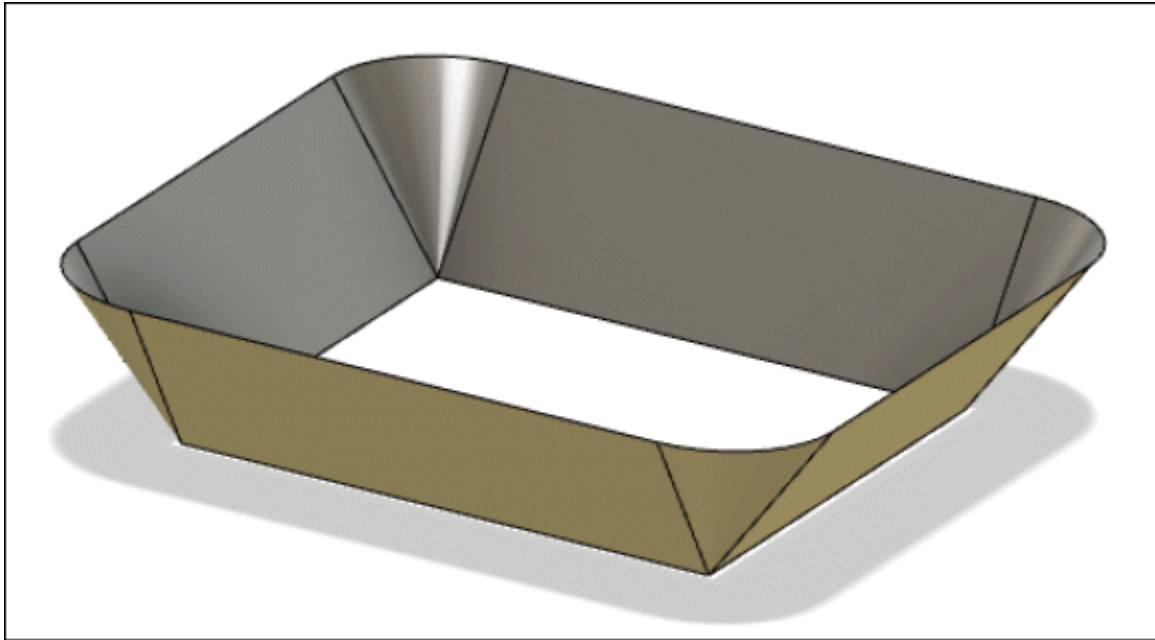

Figure-13. Ruled surface body created
- After specifying desired parameters in the dialog box, click on the **OK** button. The ruled surface body will be created; refer to Figure-13.